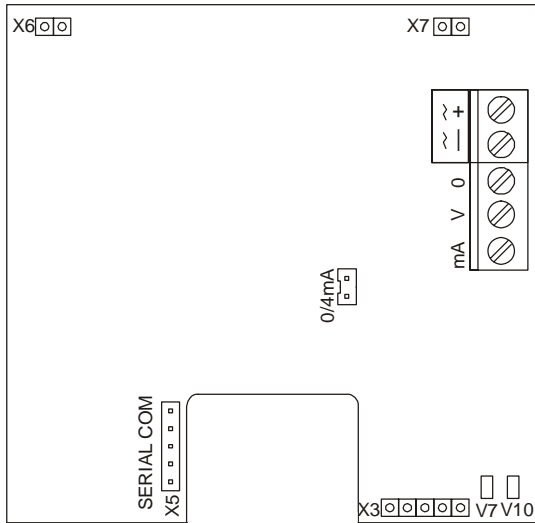
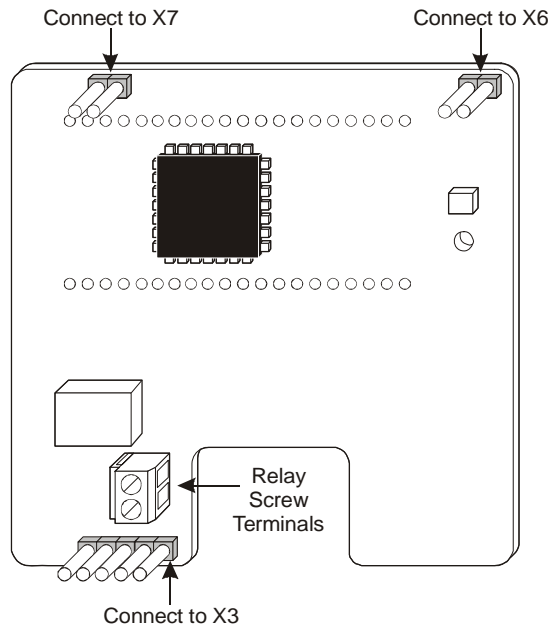

Figure 7: Transmitter PCB (Front View)
Figure 9: Relay and Display Module (Back View)
2. Connect the 24V supply between the PCB's positive (+) and negative (-) terminals (shown in Figure 7).
The transmitter can generate either voltage or current output. Refer to Figure 7.
4. Choose the current output type with the PCB jumper at pins labeled 0/4mA (shown in Figure 7):
Model CD-WRD-00-0 is shipped with a relay and display module. To wire the module, refer to Figure 7 and Figure 9, and:
Note: The module's relay and its terminal pins are located on the back of the relay and display PCB (see Figure 9).
3. Plug the relay and display module into the 5-pin (X3) and two 2-pin (X6 and X7) connectors on the main PCB, shown in Figure 7.
Note: The diagnostic Light-Emitting Diode (LED) shown at the right-hand corner of Figure 7 indicates operational status: